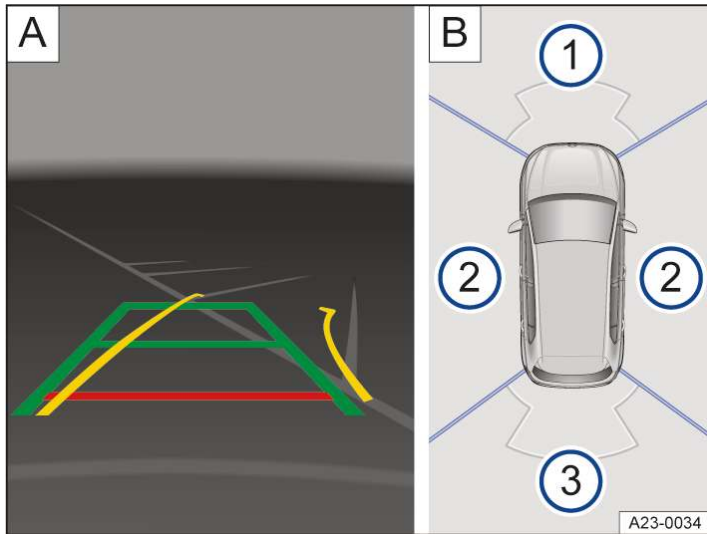

Fig. 1 Infotainment system: Area View with "perpendicular parking mode" camera image (illustration).
Two screen areas are displayed on the Infotainment system → Fig. 1:
1. To display the desired camera image on the left → Fig. 1 Ⓐ, tap the area of the screen on the right for the front, rear or side view → Fig. 1 Ⓑ.